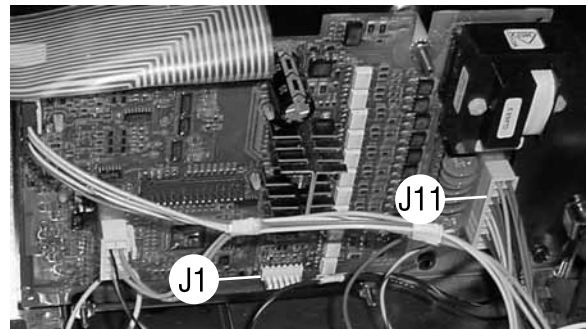
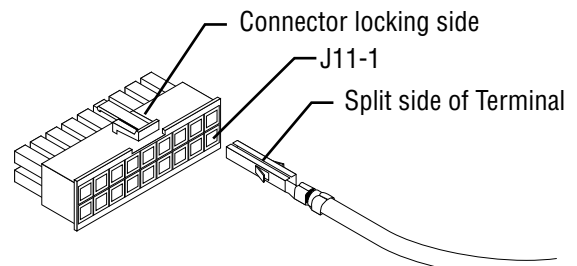

FIG 3
FIG 4
8. Refer to Fig 3, disconnect the Main Harness from J11 connector of the Main Control Board. Refer to Fig 4, locate the open port (J11-1) of the Main Harness Connector and insert the terminal of the long white wire from the Relay/Bracket Assembly.